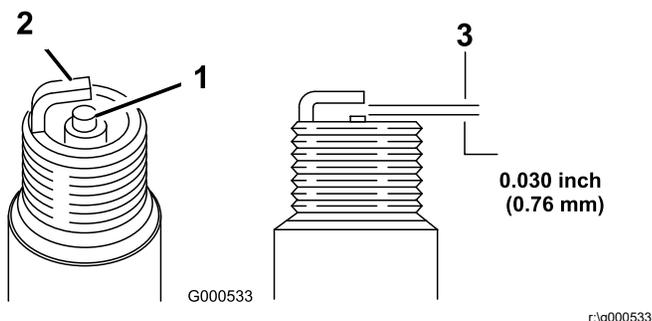

Figure 18
5. Set the gap on the plug to 0.76 mm (0.03 inch) (Figure 18).